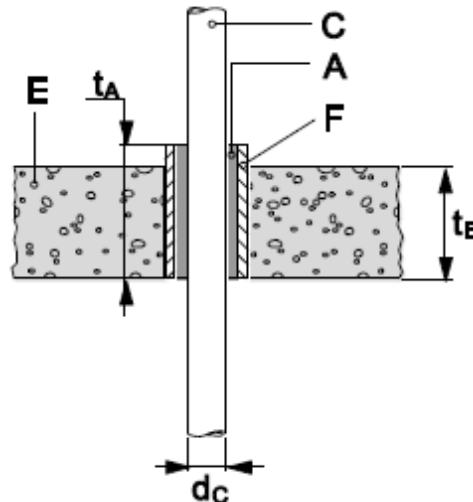

Figure 2 Sleeves for floor applications
For some floor applications a pipe sleeve (F) can be casted into concrete floor made from PVC-pipes, diameter 75 mm – 110 mm, with 200 mm length mounted flush to the bottom side of the floor as illustrated in Fig. 2.